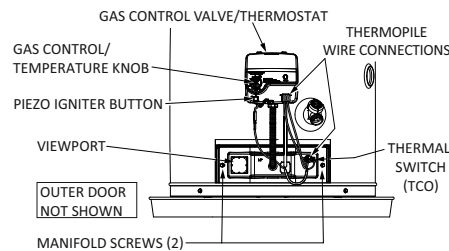

Figure 16.
8. Remove the screws (1/4" nut driver) securing the manifold/burner assembly to the combustion chamber. (Figure 16.)
2. Inspect the viewport for damage and replace as required (Figure 16, page 17).
2. Watch the electrode tip while activating the igniter. (If the room is dim enough, try looking through the view port [Figure 16].)